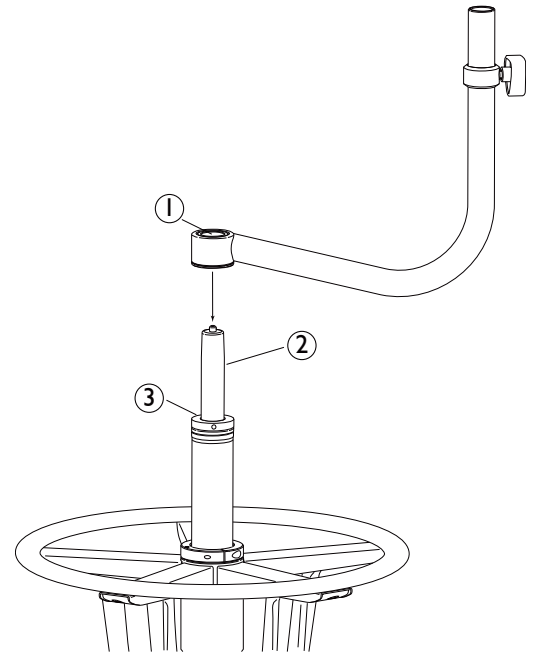

Figure 9: Assembling Support Pole - SA5550 and SA555 I
- a. Insert the hub of the Torso Band Pole (Figure 9, item 1) over the gas cylinder (Figure 9, item 2) as shown.
- b. Fully seat the pole down against the Lock Ring (Figure 9, item 3).